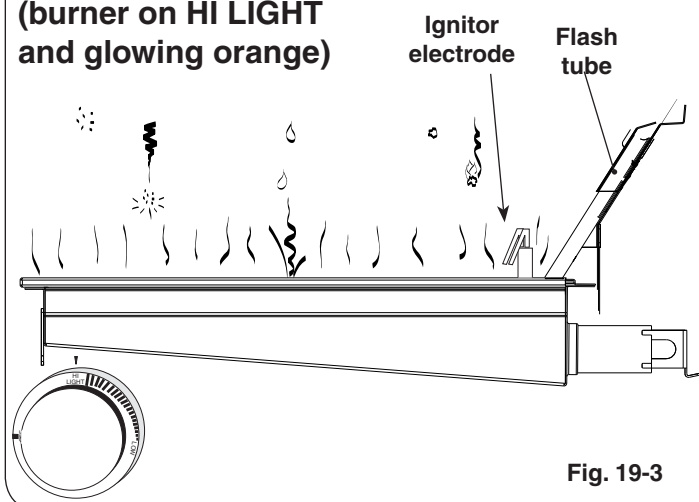

Fig. 19-3
- **DO NOT place food on the cooking grid until the IR burner glows orange (Fig. 19-3).** Drippings are heated and evaporate instead of sticking to and impairing burner function.